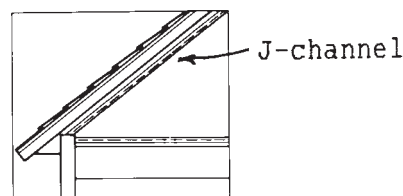

FIG. 17 Installation on Gable
9.3.8 At a gable, install J-channel along the rake boards. (See Fig. 17.) Lap the channels if necessary by cutting 1 in. (25.4 mm) off the end leaving only the face and then lap $\frac{3}{4}$ in. (19 mm). Miter the ends that meet at the peak to make a neat joint. (See Note 5.) Lock each precut siding panel into the siding panel below and slide it into J-channel allowing $\frac{1}{4}$ -in. (6.4-mm) expansion gap between the end of the siding and back of the J-channel. The panel for the top of the gable may be face nailed. Drill a hole the size of the nail shank in the center of this triangular panel. Lock the panel in place and drive one nail into the pre-drilled hole. Do not nail it tight! Nailing into the panel without a pre-drilled hole may crack or kink the vinyl. (See Fig. 18.)